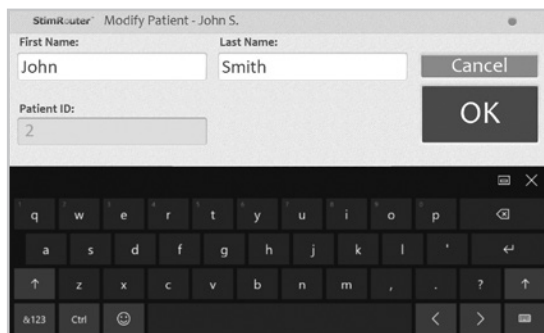

Figure 9-5: Modifying a patient record
2. Enter changes to the patient’s first or last name, and then press the “OK” button. See Figure 9-5.